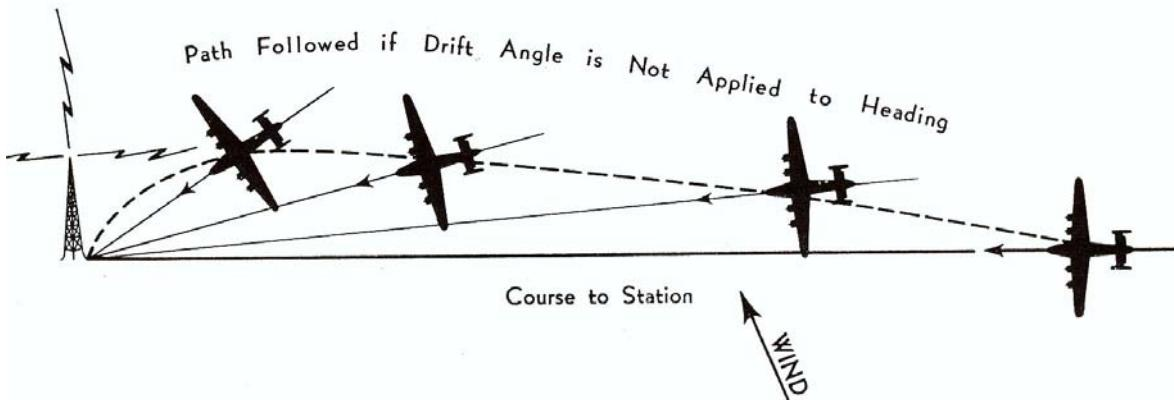

Fig 45: Indicates the Path Flown by a "Lazy" Aero Navigator's Approach to Homing.
4.7.4.2.2 With a crosswind component, it is possible to home, but keeping the ADF indicator needle pointing directly at the NDB would cause the plane to drift progressively further off course, as shown in Fig 45. It would require a continually changing heading. This will result in flying a curved path with ever decreasing radius of turn. These changes will result in flying a longer distance. It will thus take more time. The continuously changing radius of turn will also require progressively closer attention as it approaches the NDB.